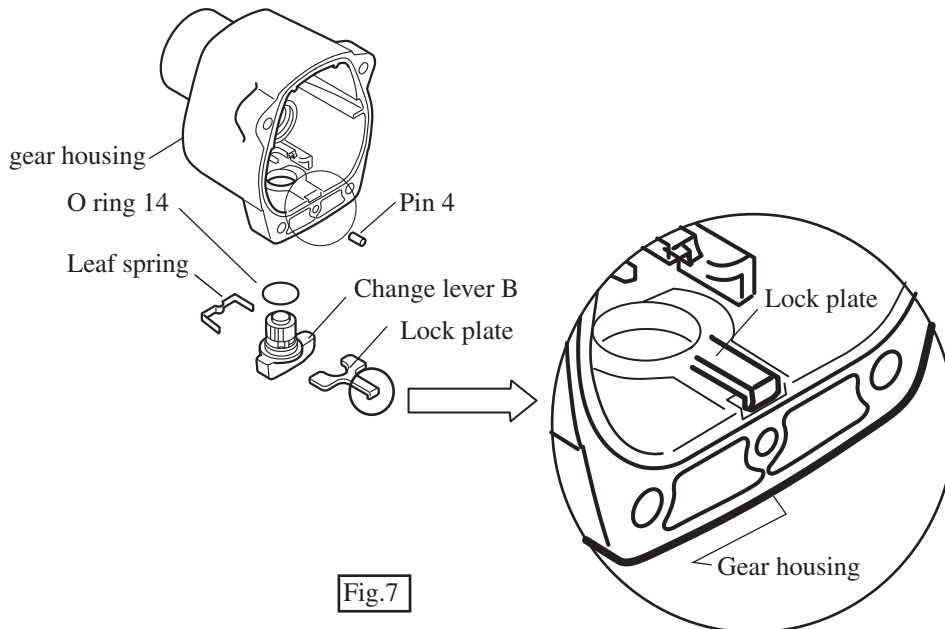

Fig.7
B. Bent of lock plate has to be faced to change lever side as illustrated in Fig.7. Bent of lock plate must not protrude from the edge of gear housing.